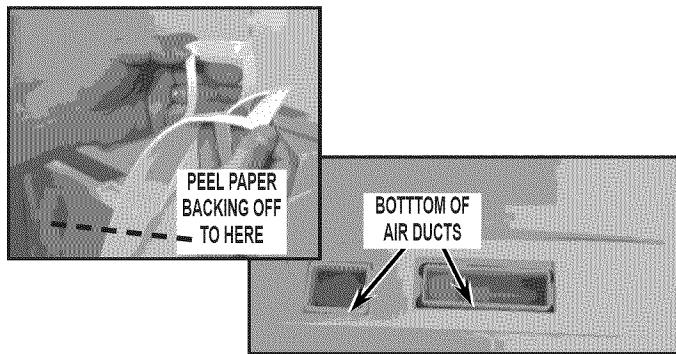

FIGURE 18
21. Peel paper backing half-way off new gasket. Position gasket to touch bottom of air ducts with adhesive side on the liner. See *Figure 18*. Apply gasket to back wall of liner.